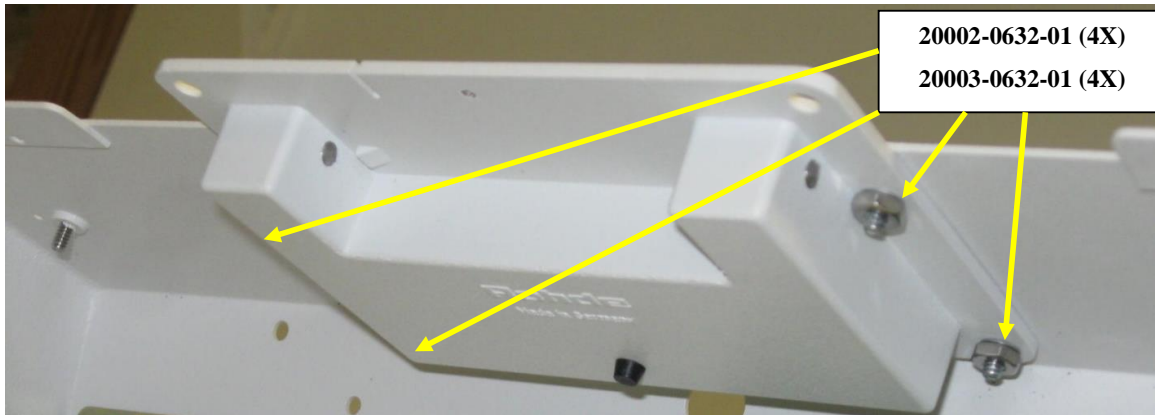

Figure 22
- 11.6. Install the Handle into the Chassis using four (4) #6 Lockwashers (20002-0632-01) and four (4) 6-32 Nuts (20003-0632-01) by using a 5/16" wrench (see Figure 22).